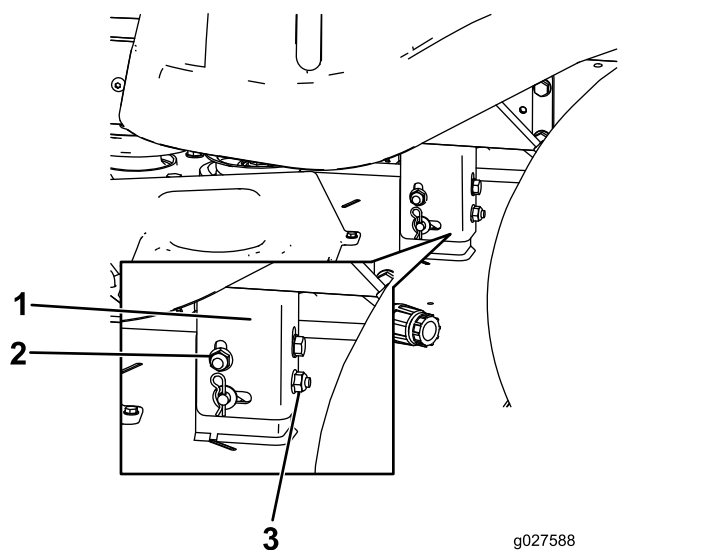

Figure 70
8. Raise or lower the left side of the mower deck by rotating the rear nut (Figure 70).
Note: Rotate the rear nut clockwise to raise the mower deck; rotate the rear nut counter-clockwise to lower the mower deck (Figure 70).